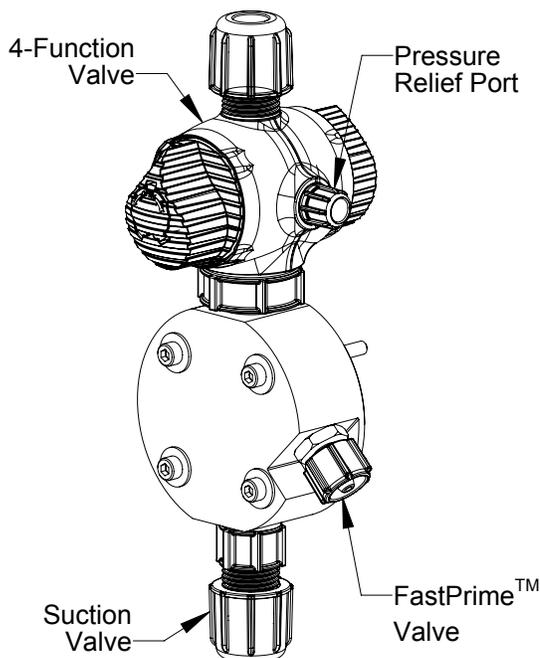

FIGURE 3
1. Connect the 3/8" outer diameter clear vinyl tubing provided with the pump to the FastPrime™ Valve barbed nozzle (Figure 3). Route tubing to the solution tank. This tubing must not be submerged in the solution.
Please note: The chemical discharges through the discharge valve which is mounted to the front of the AUTOPRIME™ liquid end, as seen in Figure 3.